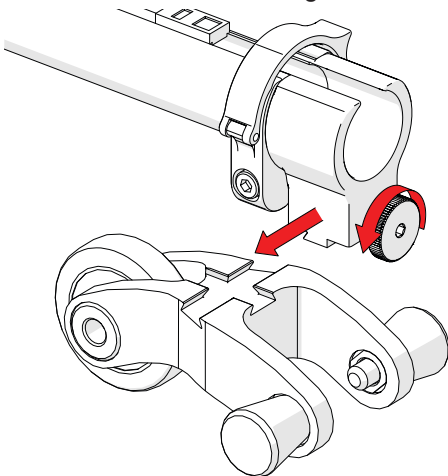

Fig. 93 - Loosen and slide on
- 1.** Loosen the knob on the cable management dovetail mount. Slide the mount onto the dovetail link (*Fig. 93*).